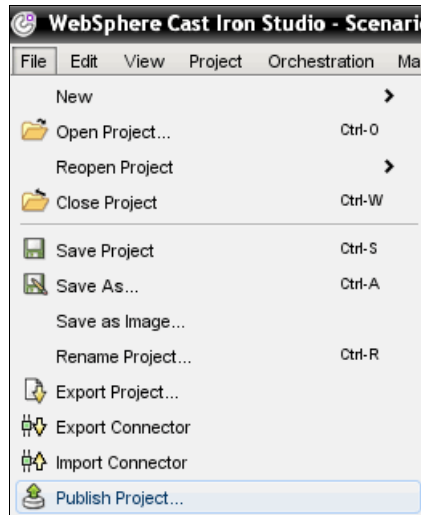

Figure 10-71 Publish the project
2. Click **File** → **Publish Project**, as shown in Figure 10-71 on page 401.